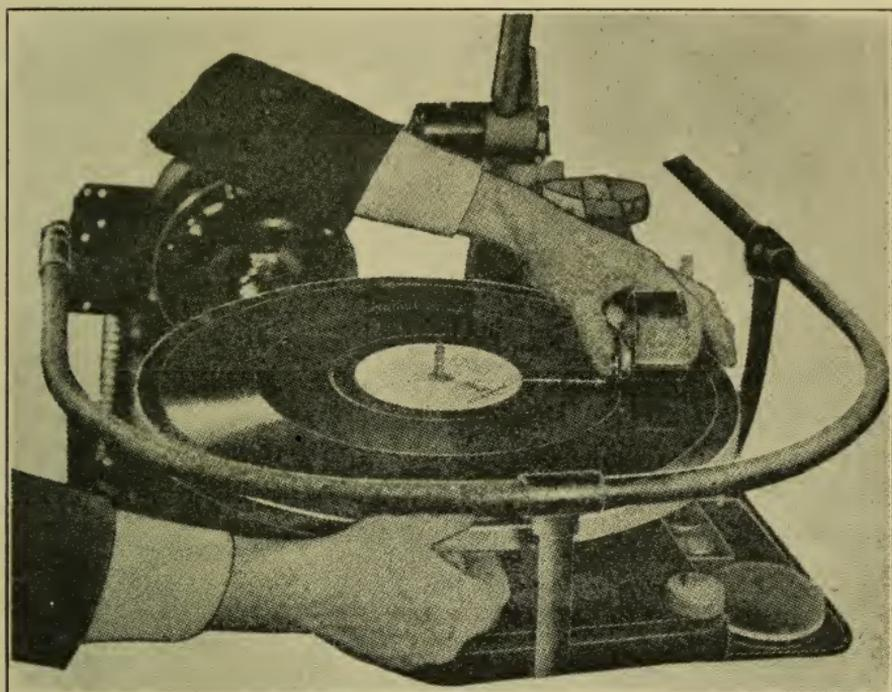

Figure 430.
(d) The projectionist must monitor or test his records before attempting to use them in his show. This is done as follows: Place record on turntable in the manner shown in Fig. 430. Set needle at starting mark. Bring fader up to its normal operating position and start projector, counting the number of turntable rotations and fractions thereof before sound starts. Exact counting will be made the more easily if a bit of white paper be placed under the record edge opposite the starting mark. Using a China Marking Pencil, mark each record with the required number of turns as per the count. The records are now ready for use in the regular rehearsal.
(4) Place record on turntable in accordance with following. **Important:** To avoid possible damage to record and failure of synchronism, it is imperative that the driving motor remain absolutely stationary while record is being placed and adjusted on turntable.
(5) Handling the record carefully, and with **both** hands, lay it on turntable in such position that when the reproducer arm is swung into position the needle point will come approximately at record starting point.
(6) Wipe off the record gently but thoroughly before placing arm in starting position, using the cleaner provided by preference, but in no event a harsh or dirty cleaner. Permitting dust to remain on a record will not only serve to work injury to the record itself, but also it will injure the quality of the reproduced sound, and increase "surface noises."
(7) Having the record in place and perfectly clean, grasp the end of reproducer between thumb and forefinger of left hand (it really does make a difference just how things are done, so train yourself to do them the **right** way) in such manner that the tips of thumb and finger project half an inch or so below bottom of needle point. Move reproducer over until needle point is above starting point, resting thumb and finger on surface of record so as to hold needle point just clear of the groove.
(8) Holding needle as above, place right hand as shown in Fig. 430, with fingers pressing lightly upon under surface of turntable and thumb on upper edge of record, as shown. Hold turntable steady while you,